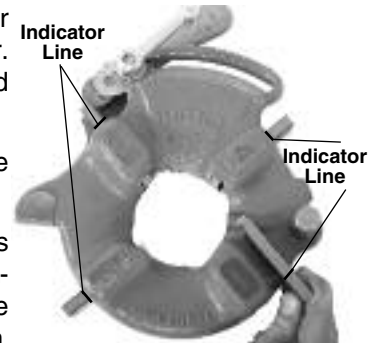

Figure 8 – Inserting Dies
4. Lift tongue of washer out of slot in size bar. Move washer to end of slot (Figure 8).
6. Insert appropriate dies into the die head, numbered edge up until the indicator line is flush with the edge of the die head (see Figure 8).